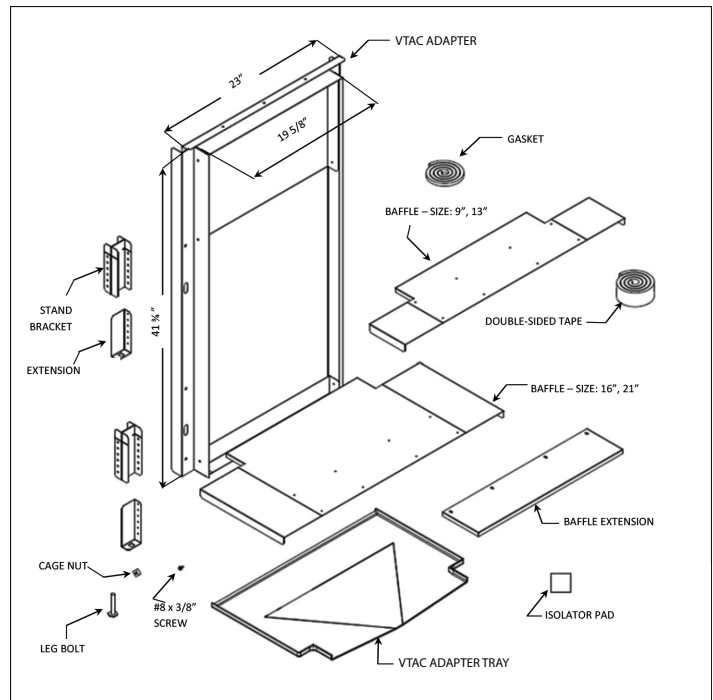

Figure 2
**Important!** Make sure the box contains all parts listed below. Inspect for defective parts. Be sure to verify the adapter dimension. i.e.: 23" ID, 19 5/8" OD and 41 3/4" (See Figure 2)